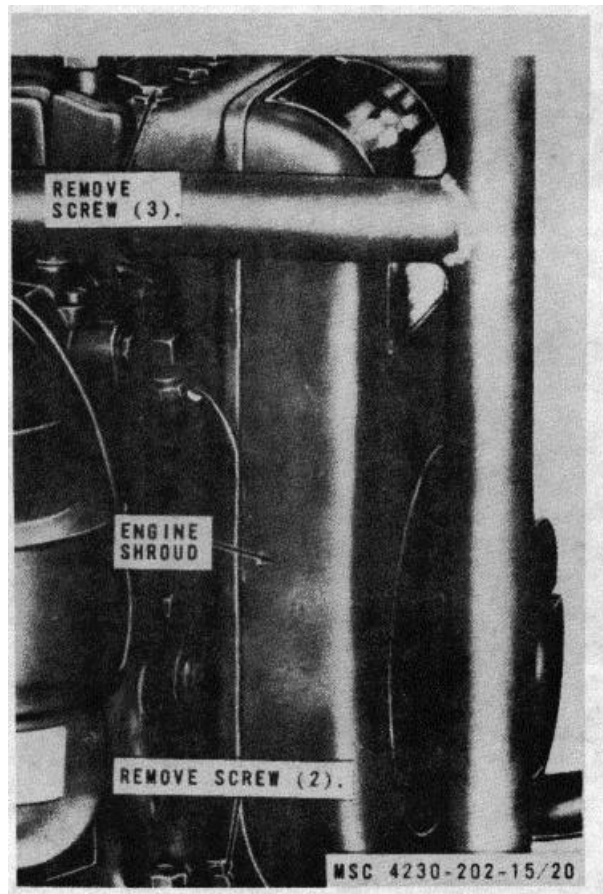

Figure 3-13. Flywheel shroud, removal and installation
- (1) Remove the starting sheave (para.3-47).
- (2) Refer to figure 3-13 and remove the flywheel shroud.
- (1) Refer to figure 3-13 and install the flywheel shroud.
- (2) Install the starting sheave (para.3-47).